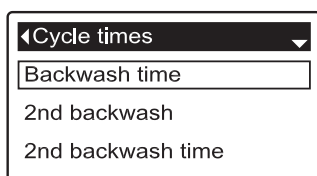

FIG. 62
5. Press the SELECT (O) button to display the Cycle times menu (See Figure 62).
9. Press the SELECT (O) button. The display will go back to the Cycle times menu (Figure 62).